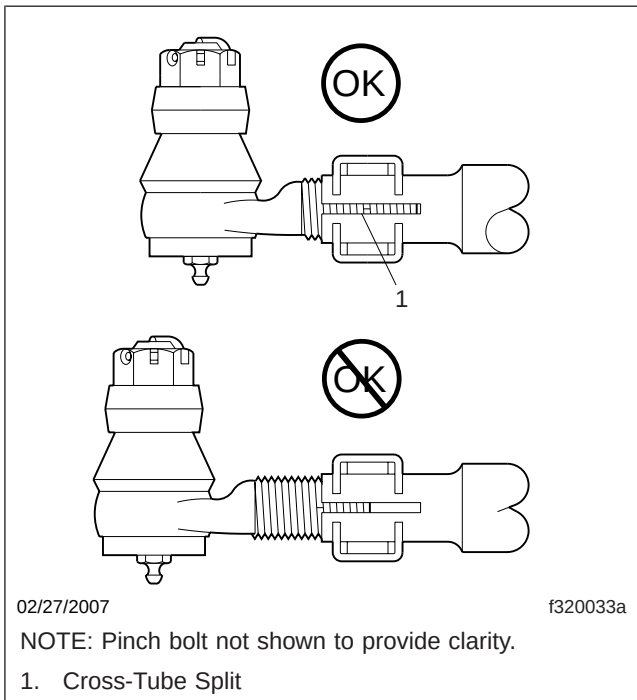

Fig. 4, Tie-Rod End Adjustment
2. The threaded portion of the tie-rod end assembly must be inserted all the way into the cross-tube split for adequate clamping. See **Fig. 4**. Replace the components if this cannot be done. For instructions, see **Group 33** of the *Heavy-Duty Trucks Service Manual*.